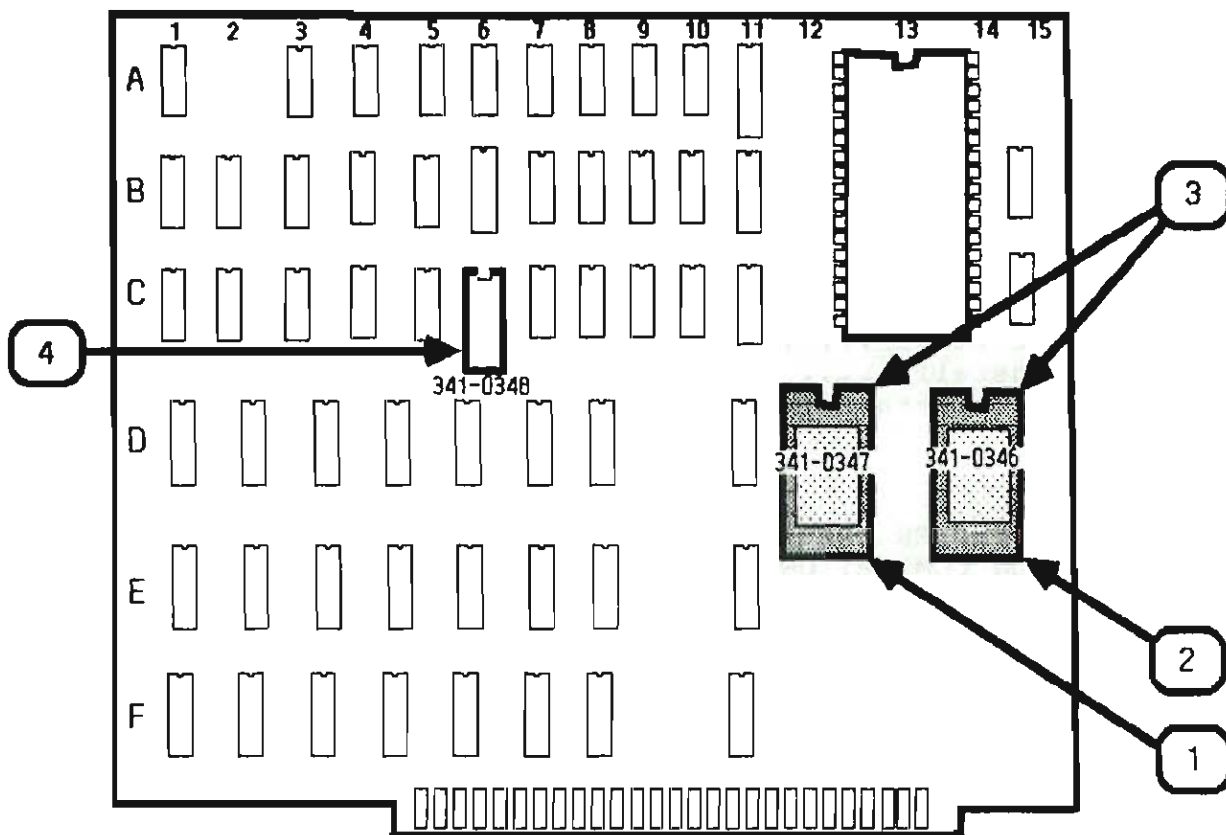

FIGURE 1
- a) Use an IC puller to remove the two boot ROMs (Figure 1, #1 & 2) from the CPU board.
CAUTION: When installing ROMs be sure to orient them so that the notches (Figure 1, #3) are facing the same direction as the notches on the surrounding chips.
- b) Remove the new 28-pin ROM (P/N 341-0347) from the anti-static bag and carefully insert it into the socket at location 13-D (Figure 1, #1).
- c) Remove the new 28-pin ROM (P/N 341-0346) from the anti-static bag and insert it into the socket at location 14-D (Figure 1, #2).
- d) Use an IC puller to remove the 20-pin video state machine ROM at location 6-C (Figure 1, #4).
- e) Remove the new video state machine ROM (P/N 341-0348) from the anti-static bag and insert it into the socket at location 6-C (Figure 1, #4).